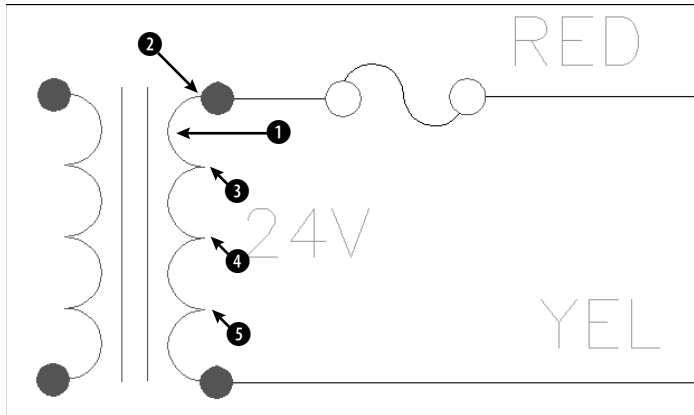

**Figure 9-6:** Close-up of the transformer.
4.  Note that three of the arcs that make up the right side of the transformer are missing. Pick the arc at ① in Figure 9-6. Choose Copy from the Modify toolbar. Follow the prompts:
Specify base point or [Displacement] <Displacement>: *Pick the endpoint at the top of the arc at ② (see Figure 9-6).*
Specify second point of displacement or <use first point as displacement>: *Pick the endpoint at the bottom of the first arc at ③ (see Figure 9-6).*
Specify second point of displacement or <use first point as displacement>: *Pick the endpoint at the bottom of the second arc at ④ (see Figure 9-6).*
Specify second point of displacement or <use first point as displacement>: *Pick the endpoint at the bottom of the third arc at ⑤ (see Figure 9-6).*